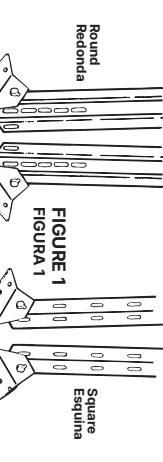

FIGURE 1
- Loosely attach feet to ends of legs using bolts and Keps nuts. Position feet on legs to assemble two right side and two left side legs, as shown in Figure 1. The feet will pivot to align with roof pitch.